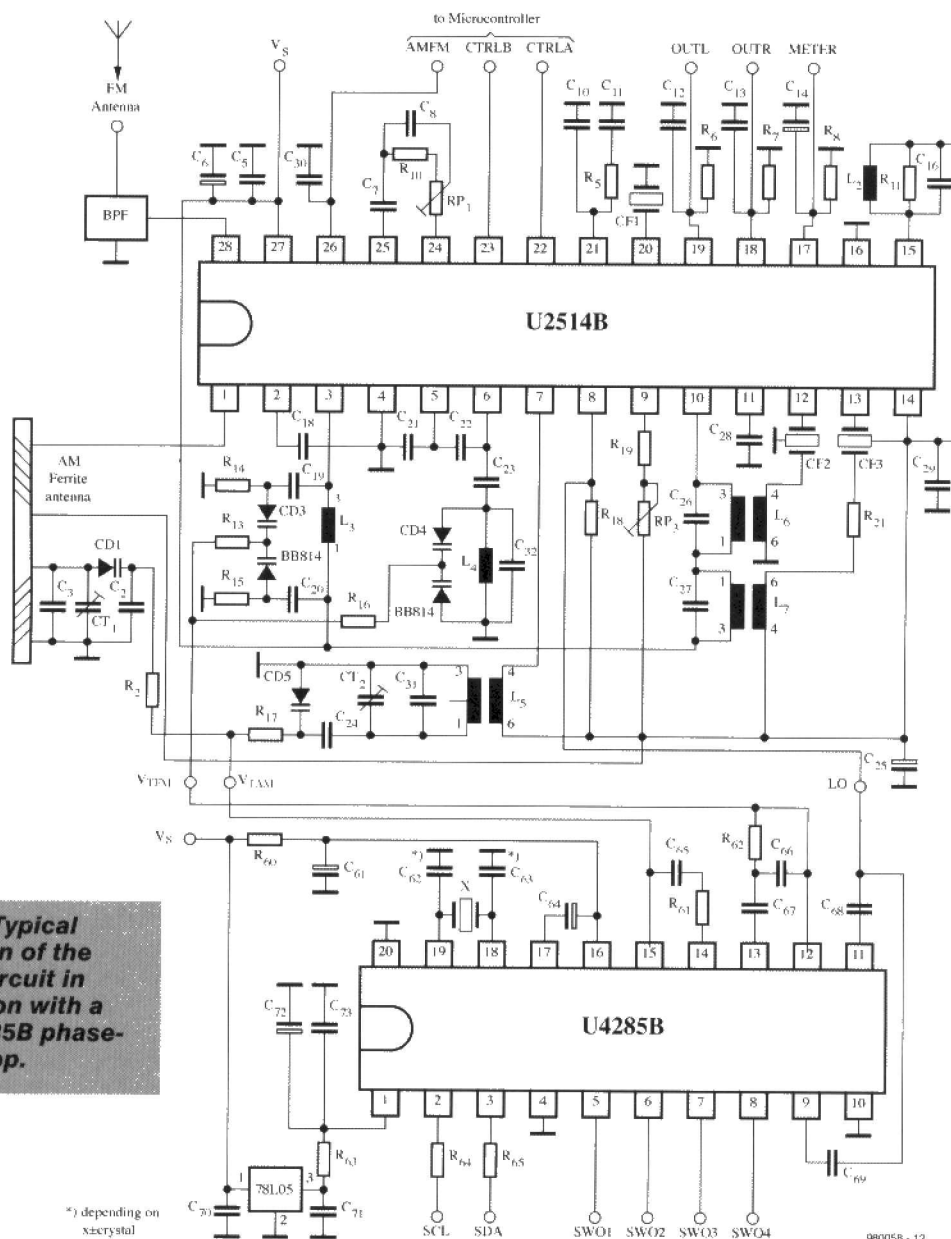

Figure 2. Typical application of the U2514B circuit in conjunction with a Type U4285B phase-locked loop.
The tiny circuit is best built on the printed-circuit board shown in **Figure 2**, but this is not available ready made. However, a small prototyping board will do very nicely as well.
Figure 2. The discharge circuit is intended for 1.2 V batteries. If several of these, or a 9 V rechargeable NiCd battery, have to be discharged, an appropriate number of PCBs are needed.
signals the input alternating current is bypassed via the wideband AGC transistor. A capacitor (C_{18} in Figure 2), is connected between pins 2 (FMAGC) and 4 (GNDRF) to smooth the AGC voltage and to shorten the transistor base to ground (pin 4). A tuned r.f. (radio frequency) circuit is connected between pins 3 (FMRF) and 27 (VS). The amplified r.f. signal is fed internally to the mixer input.